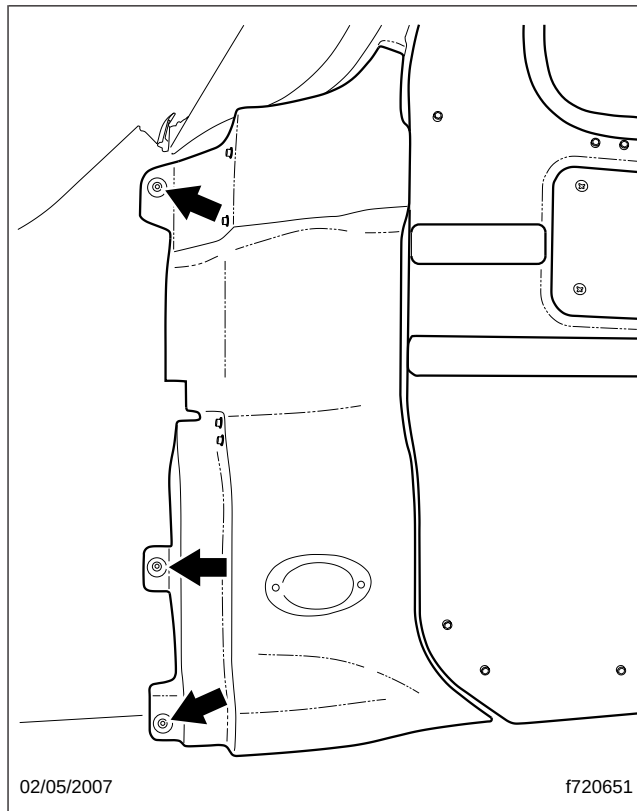

Fig. 1, Cowl Side Panel Forward Fasteners
- 6.1 Remove the two Torx screws and washers at the forward edge of the cowl side panel; see Fig. 1.